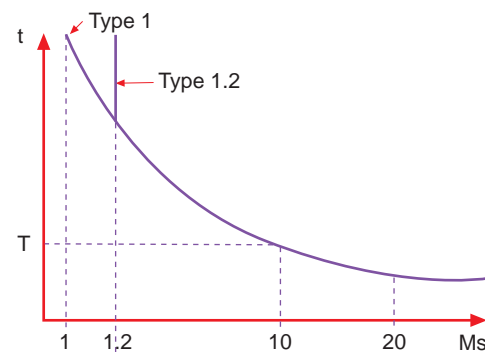

Figure 3. IDMT curves based on Type 1 and Type 1.2
Figure 3 shows that for the Type 1 curve, the relay will activate at $1 \times I_s$, after a certain time delay. However, for Type 1.2 curve, the relay will only activate at $1.2 \times I_s$. The Type 1.2 curve characteristic is in accordance with BS 142 standard, which has considered the nature of the electromechanical relay. With a better understanding of the IDMT curves and the way the SEPAM relay interprets the curves, SEPAM users will better appreciate the flexibility of the settings for phase over-current (51) protections.